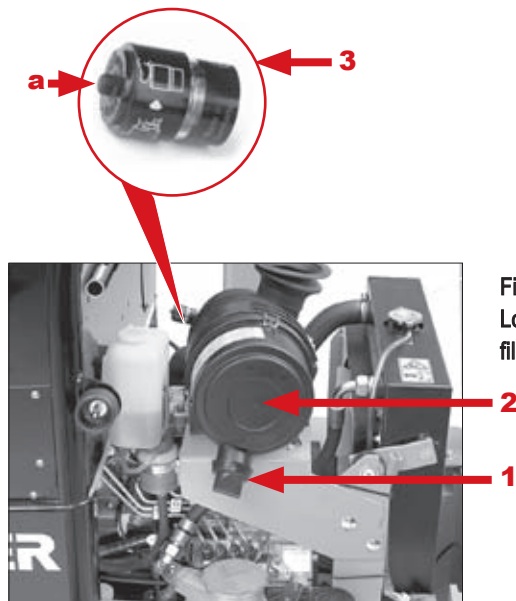
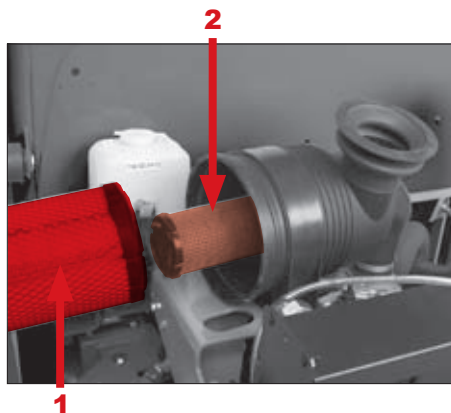

Fig. 74
Fig. 75
Check if the outlet slot on the dust valve Item 1 (Fig. 74) is clear. Remove dust accumulation by pinching the valve.
Clean or replace the main filter element item 1 (Fig. 75) during the inspection or if the red cover is visible between inspection intervals in the inspection glass in the maintenance display, Item 3 (Fig. 74).
To reset the display, press the button Item a (Fig. 74).
1. Remove the fasteners on the cover Item 2 (Fig. 74) and take off the cover.
2. Remove the main filter element Item 1 (Fig. 75). Do not remove the safety filter element in the process.
Should it be apparent while servicing the dry air filter that a maintenance fault was present or that the main filter element is damaged, replace the safety filter element Item 2 (Fig. 75).
1. Remove the three fasteners on the cover Item 2 (Fig. 74).
2. Remove the cover Item 2 (Fig. 74):
3. Pull out the main filter element Item 1 (Fig. 75).
4. Pull out the safety filter element Item 2 (Fig. 75).